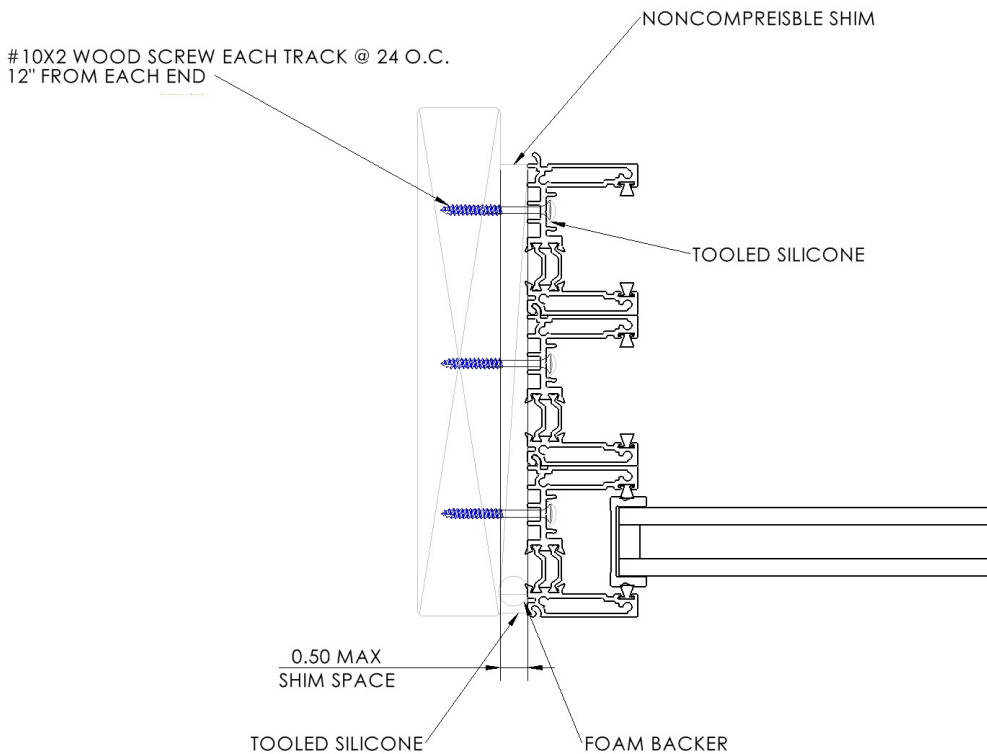

Figure 3
- Jamb – 12" from each end and every 24" on center per track. (See Figure 3)